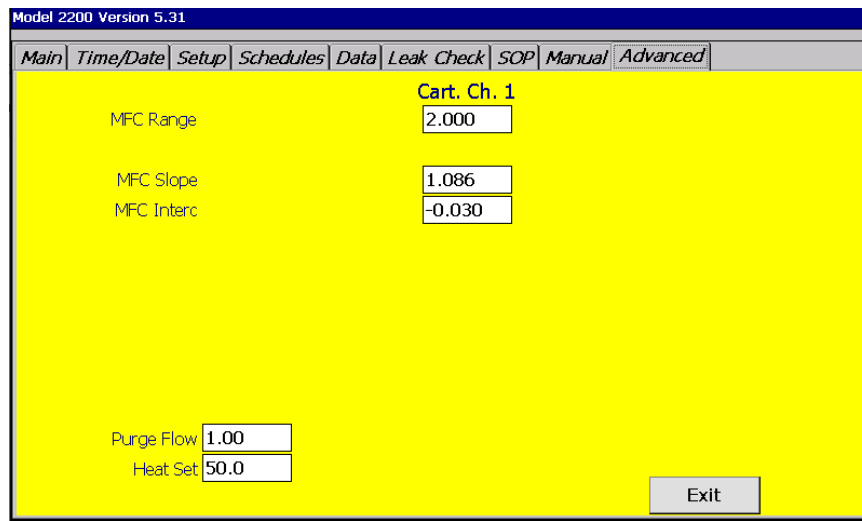

Figure 6: ATEC 2200 Advanced Tab
- 41 Perform a post-sampling flow check of the ATEC 2200 sampler. Install a designated flow check DNPH cartridge to the outlet line of Channel 1 on the ATEC 2200 sampler. Leave the cartridge inlet disconnected from the channel inlet line of Channel 1 on the ATEC 2200 sampler as configured previously in Section 5.1, figure 6.